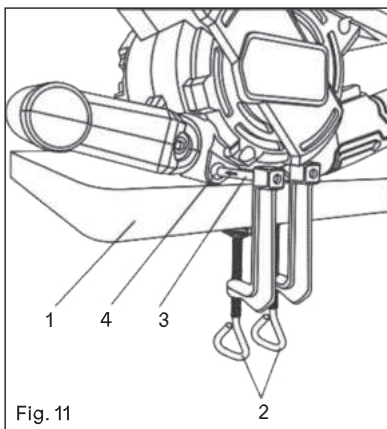

Fig. 11
1. Turn the sander upside down at the edge of the work bench (1) (Fig. 11).
3. Turn the "eye" of each clamp (2) counter clockwise until the clamps are fully opened.
4. Slide the clamp pins (3) into the clamping holes (4) in the sander.
5. Turn the "eye" of each clamp (2) clockwise until the clamps tightly hold the sander to the workbench.